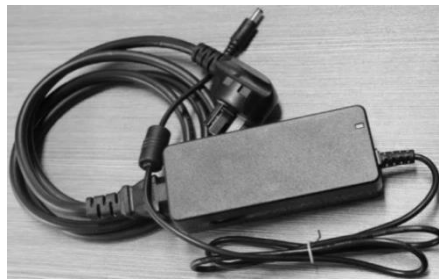

Fig 3
2.2.2 Power Adapter (Ref Fig 3)